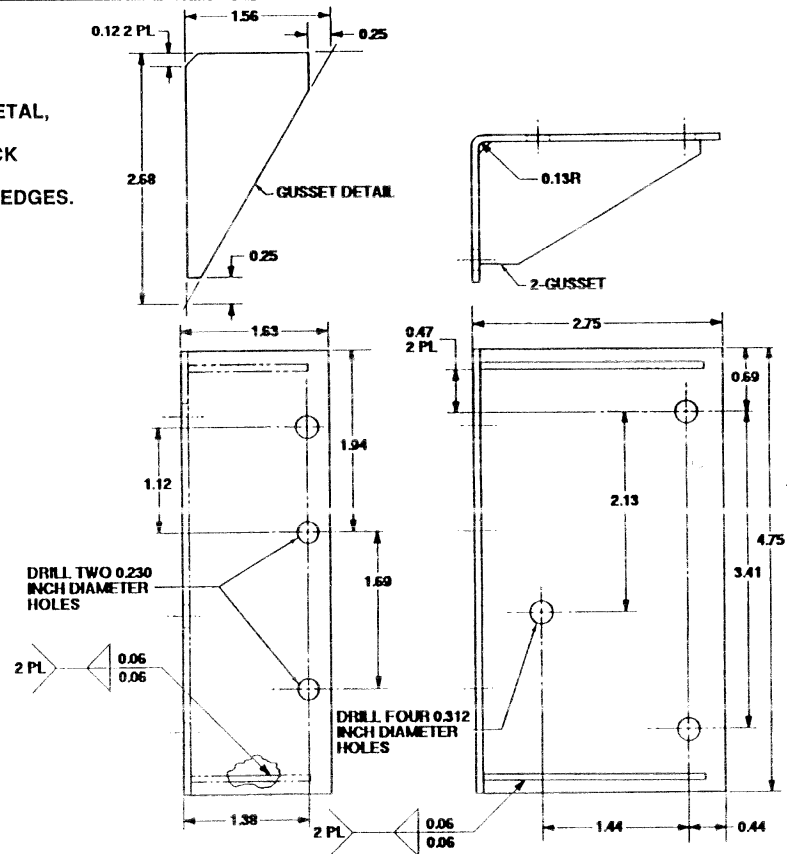

FIGURE 3-9
2. To fabricate door hinge reinforcement bracket for right door, refer to figure 3-9.